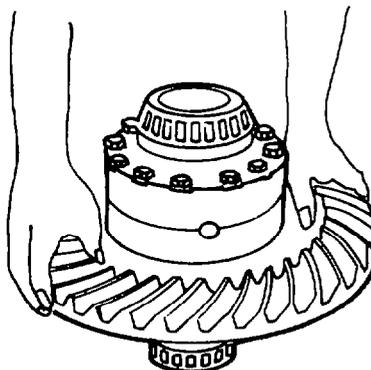

Fig. 360 — Installing Crownwheel to Flanged Differential Case
- d. Fit the crownwheel (item 19) over the flanged differential case (item 20); align the bolt holes and install the bolts (item 18) and nuts (item 21) and torque to 244 - 298 Nm (180 - 220 lb.ft). Refer to fig. 360.